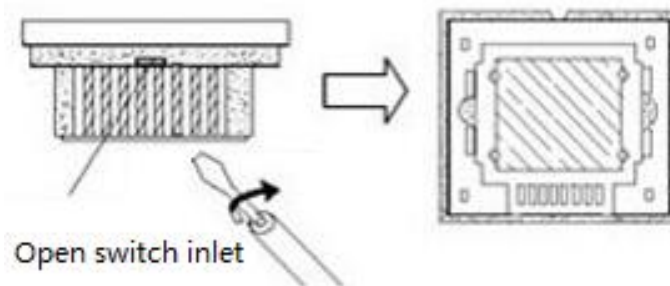

Fig.1
- 1) As shown in Fig.1, using the screwdriver to pry the gaps on the side of the switch to open the panel.